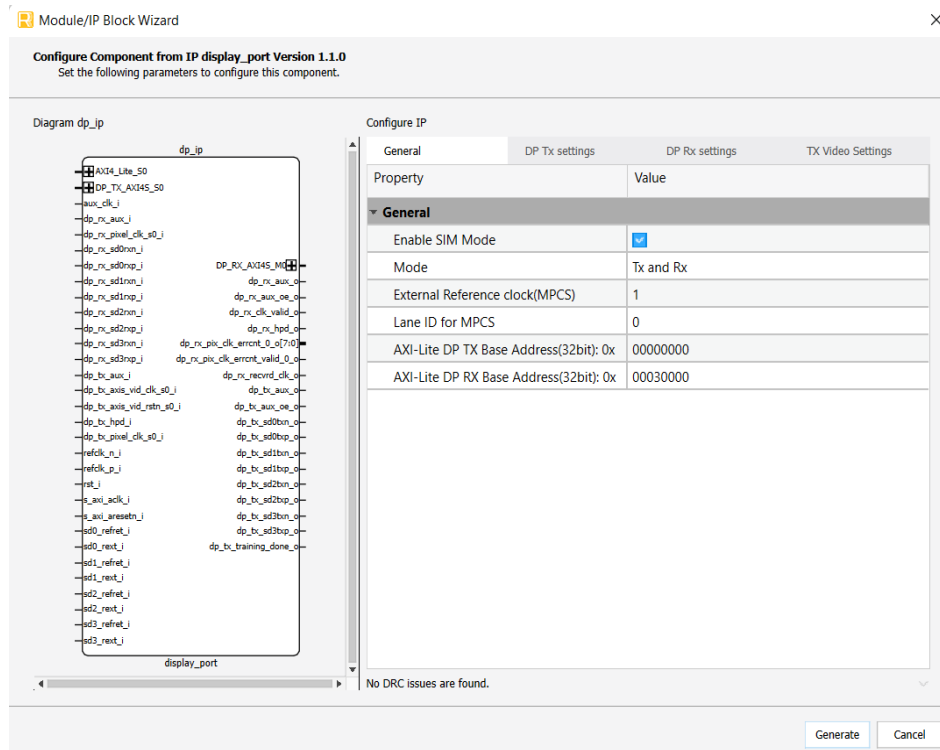

Figure 5.4. Module/IP Block Wizard for dp_ip
- Select the required parameters as shown in Figure 5.4.